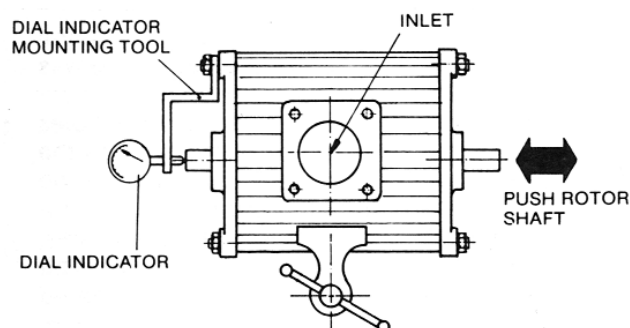

Fig. 12 - Axial Clearance Measuring
It will now be necessary to check for proper axial and radial clearances. The axial clearance is checked by installing a dial indicator on one end of the shaft (see Fig. 12). Pull the opposite end of the shaft as far as it will pull away from the dial indicator. Set the indicator at zero (0). Push the shaft toward the dial indicator as far as it will push. The reading on the dial indicator will be your axial clearance. The recommended axial clearances are shown in the chart located near the back of this manual (see page 21).
Attach a dial indicator on the motor side rotor shaft as indicated in Fig. 12 to check axial clearance. Do not change anything until the radial clearance is checked. Follow the same procedures as mentioned previously. If the resistance of the feeler blades between the rotor and the cylinder feel tighter on one end of the cylinder than the other, use a hammer to tap the endplate on